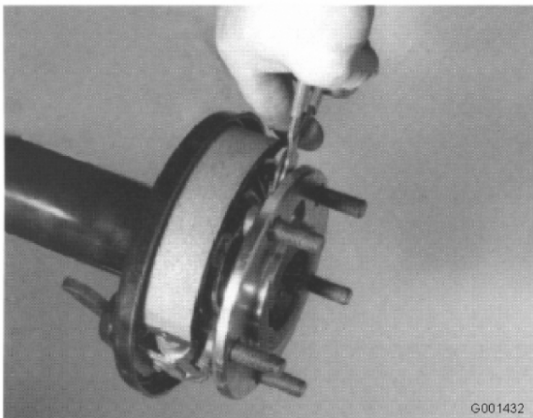

Figure 4
1. Remove the snap ring from the end of the tube (Figure 4).